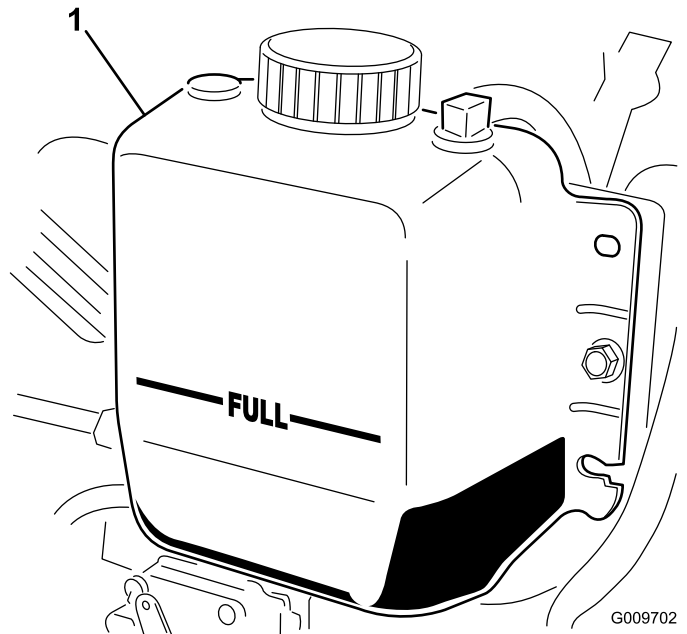

Figure 30
2. Check the coolant level in the radiator. The radiator should be filled to the top of the filler neck and the expansion tank filled to the FULL mark (Figure 30).